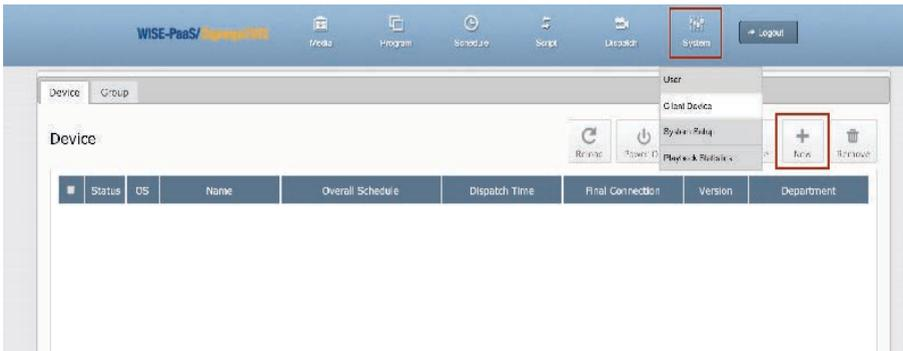

Figure 10
Step 1. Open the server system interface installed on the server device. Select the Client Device option in the dropdown menu, then click the [New] button at the top right corner of the interface (as shown in Figure 10).